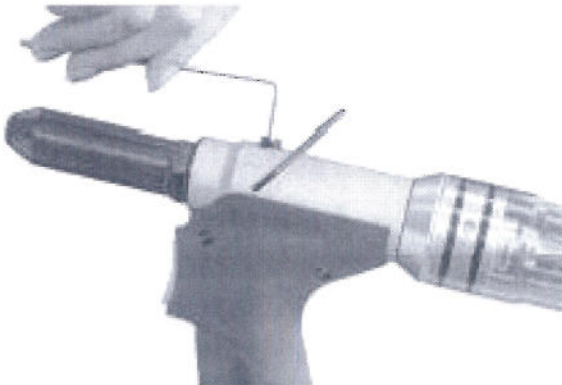

Fig 3
2. Remove seal screw and seal (see Fig. 3)